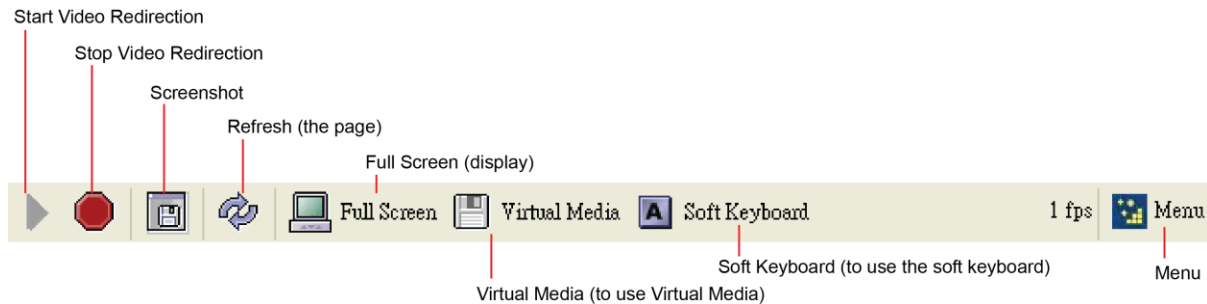

Figure B-2 SIM(W) KVM Console Toolbar
The SIM(W) Console Toolbar provides seven tool buttons which will allow the user to perform the following actions as shown in Figure B-2.